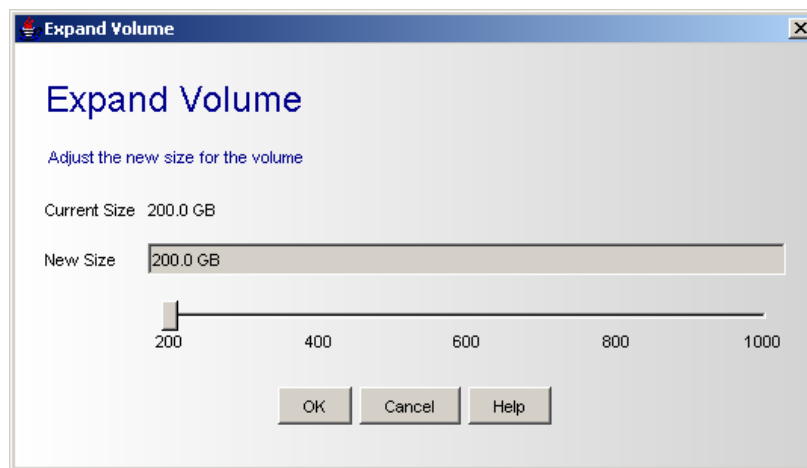

Figure 5-16 Expand Volume Dialog Box
2. On the **Storage** menu, click **Expand Volume**. The Expand Volume appears (see Figure 5-16).